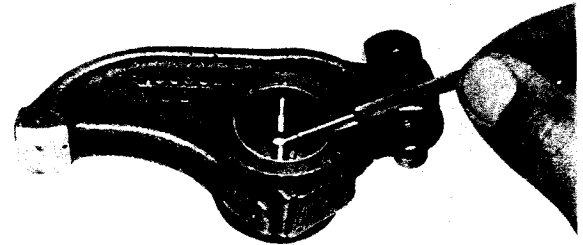

Fig. 3-5, (V40306). Checking rocker lever bushing inside diameter
5. Check rocker lever bushings for scratches, pitting or scoring. Check rocker lever bushing inside diameter with inside micrometers or small bore gauge. Fig. 3-5. If bushing exceeds 1.1286 inch [28.664 mm], press out bushing with ST-691 Mandrel and Block. Clean lever thoroughly and dry with compressed air. See Parts Catalog for current replacement bushing part numbers.